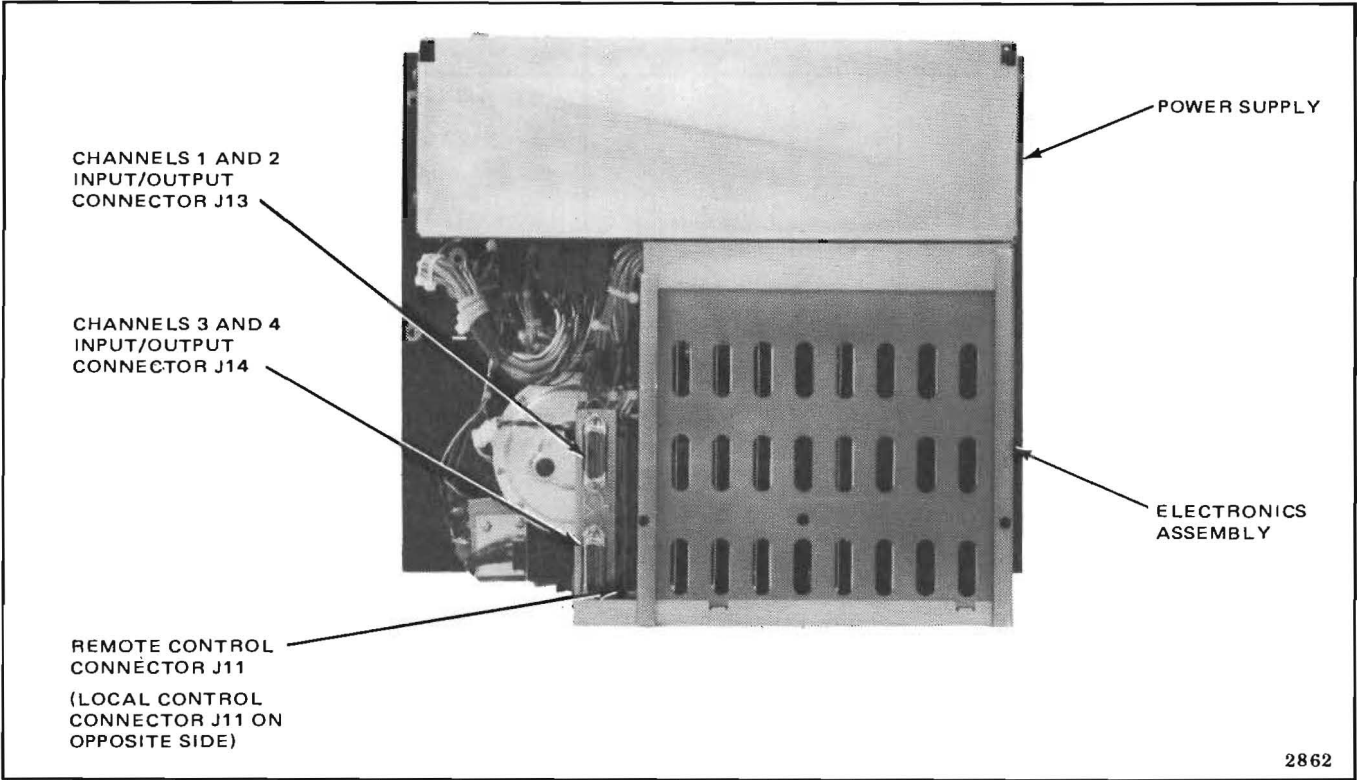

Figure 2-10. Connector Locations, Bottom View of Recorder/Reproducer
2. Unplug control unit PCB connector P11 from the electronics assembly double-sided connector J11 (Figure 2-10).